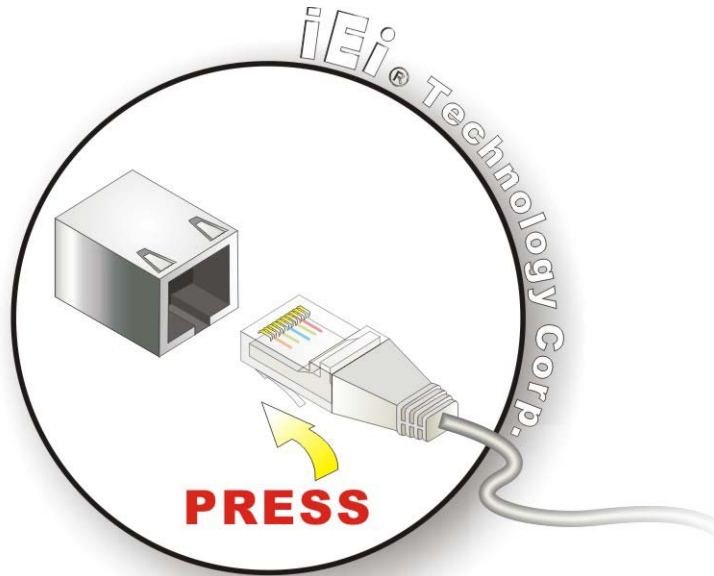

Figure 3-25: LAN Connection
Step 5: Align the connectors. Align the RJ-45 connector on the LAN cable with one of the RJ-45 connectors on the ECN-680A-H61. See Figure 3-25.